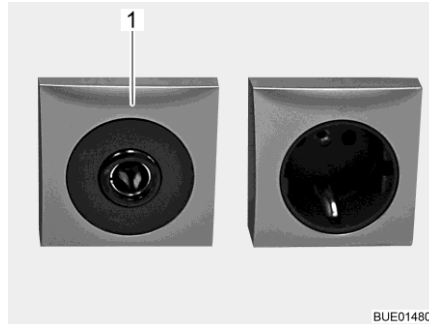

Fig. 133 12 V/10 A socket
- ▷ Only connect devices with a maximum of 10 A to the sockets (Fig. 133,1) of the 12 V power supply.